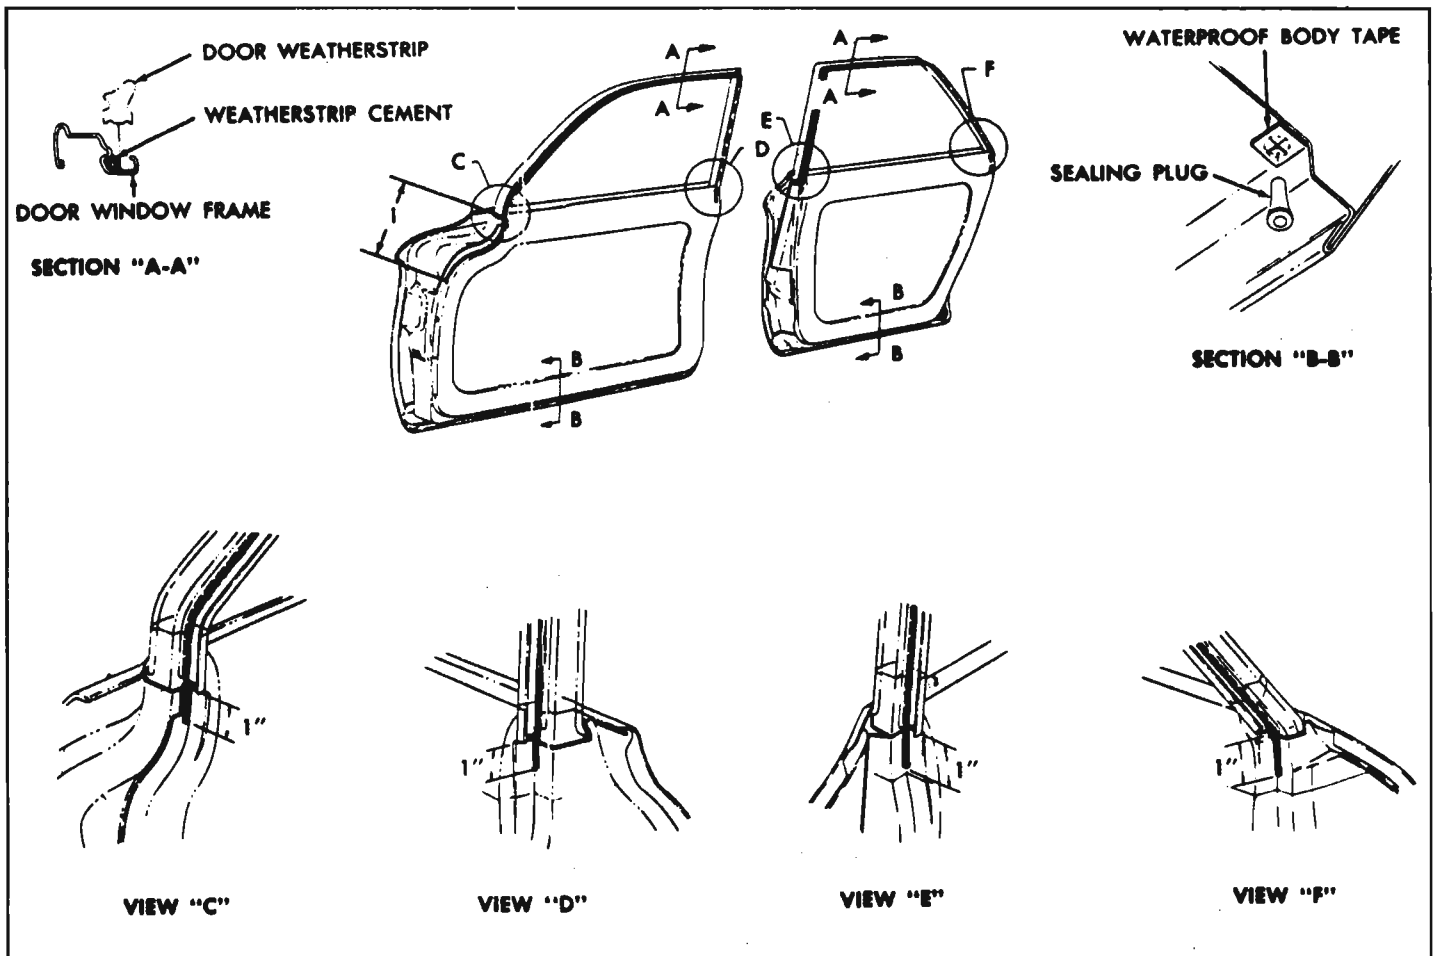

Fig. 10-45—Door Weatherstrips
1. With a flat-bladed tool, carefully break cement bond along door window frame assembly. Also break cement bond along cove area on front doors. Refer to "1," Figure 10-45.
3. Check all attaching hole sealing plugs. If sealing plugs are loose and will not remain engaged in door inner panel, install a ½" x 1" piece of cloth backed waterproof body tape over sealing plug retaining hole as shown in Section "B-B," Figure 10-45. Make two ⅛" slits in tape to form an "X" pattern. Check sealing plug for snug fit. If plug is still loose, repeat above operation by installing second piece of tape over existing repair. This procedure may also be used to repair waterleaks which may develop at sealing plug locations.
4. Prior to installation of weatherstrip on front doors, apply continuous bead of approved weatherstrip cement, extending from approximately one (1) inch below front door upper hinge, upward along cove area of door to lower front corner of window frame assembly as indicated at "1," Figure 10-45. Continue application of weatherstrip cement along entire outboard portion of door window frame as-
sembly channel to one (1) inch below lock pillar section of frame as shown in Views "C" and "D" in Figure 10-45. Section "A-A" in Figure 10-45 illustrates application of cement to outboard portion of window frame assembly channel.
5. Prior to installation of weatherstrip on rear doors, apply continuous bead of approved weatherstrip cement, extending from approximately one (1) inch below rear door window frame assembly at hinge pillar section (see View "E," fig. 10-45) along entire outboard portion of door window frame assembly channel to approximately one (1) inch below lock pillar section of frame assembly as shown in View "F," Figure 10-45. Section "A-A," Figure 10-45, illustrates application of cement to outboard portion of window frame assembly channel.